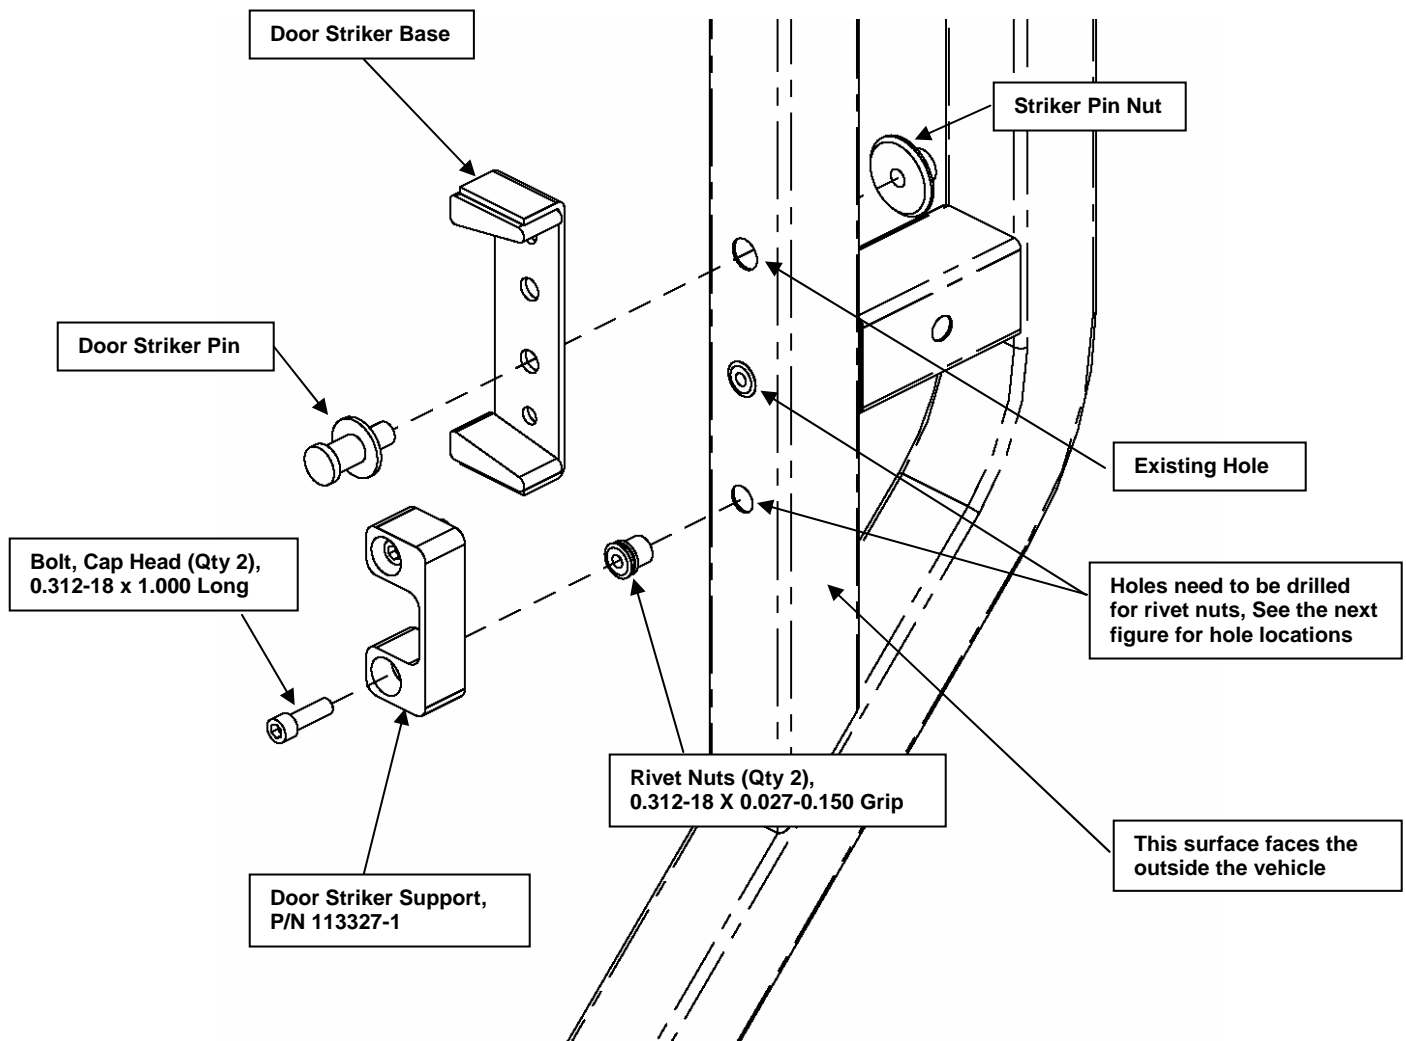

Figure 33a. Locate and install the Door Striker.
- s. Attach the Striker Bracket and Striker to the door frame (the hardware is attached to the Door Assembly), using the existing striker hole (see Figure 33a) and a new lock nut (7/16 – 14) from the Extra Hardware Kit.
- x. Install the Striker Support (P/N 113327-1) using two cap head bolts (5/16 – 18 x 1.000 LG) (See Figure 33a). (As an alternate use a 5/16 – 18 x 1.250 LG bolt.)
5.1.8 Install the LH and RH Rear Side Cab Armor Panel, Kit P/N 106703-9 (LH) and P/N 106703-10 (RH)